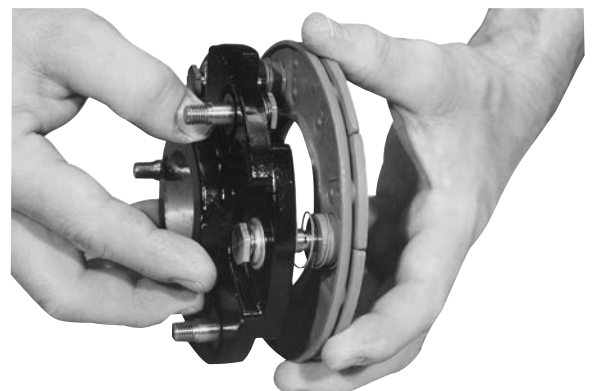

Figure 9
Step 5 Holding the pins in position, place the armature hub over one armature. Make sure the straight springs on the armature bosses fit into the groove in the armature hub (Figure 9).